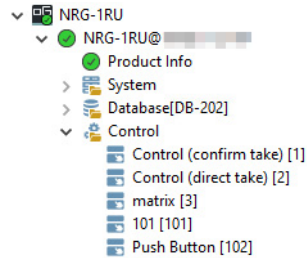

Figure 50 Example of Soft Panel Nodes
This name is used to identify the panel in the Control > Panels tree (see **Figure 50**).
3. If required, use the  buttons to determine the position of the panel in the Panels list. This also determines the priority of the panels in the Control > Panels tree (see **Figure 50**).
Once created, the soft panel is listed as a sub-node in the NRG > Control tree. The hierarchy of the nodes in the tree is determined by their Panel ID which is assigned when the soft panel is created in the database. Double-click a sub-node to display the corresponding soft panel in the DashBoard window. In **Figure 50** there are five soft panels in the tree view including the default panels (the top two sub-nodes).